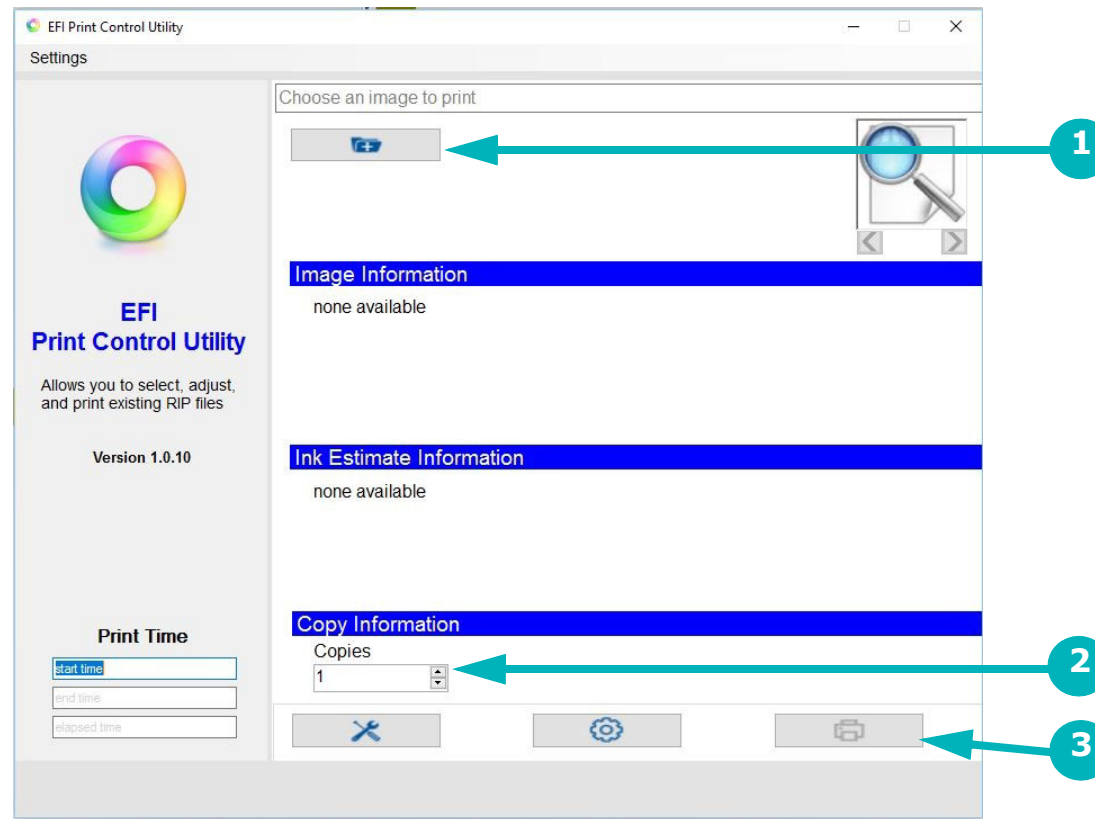

Figure 6-12: Print File from EFI Print Control Utility
2. Click the "+" (plus) folder button to load the file to print. (See Figure 6-12.)
4. Enter the number of copies. (See Figure 6-12.)
5. Click "Printer" button to print. (See Figure 6-12.)